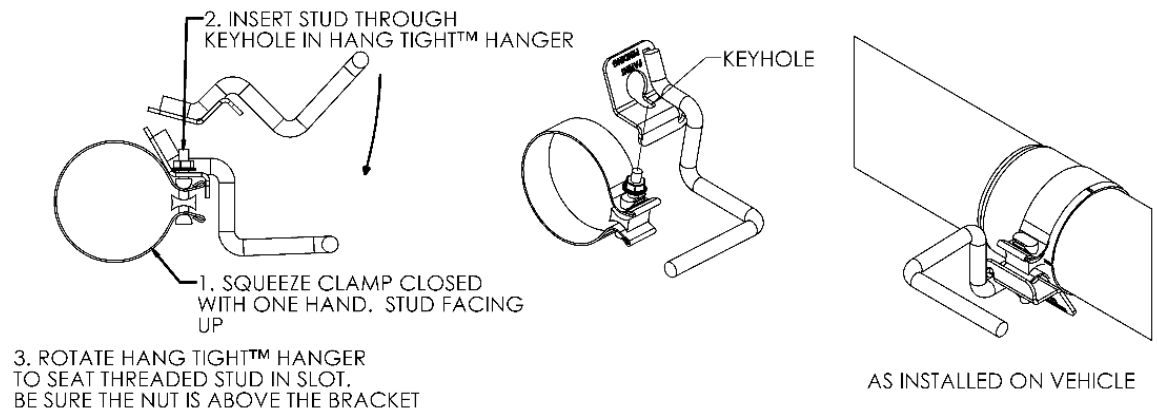

Figure 2
2. Install the **4" to 5" Extension Pipe (46.75")** over the **Down Pipe** securing it with the **4" Band Clamp** and **Front Hang Tight™ Hanger** (See figure 2 for Hang Tight™ instructions, Hang tight hanger not exactly as shown). Install the **32" Extension Pipe** onto the **4" to 5" Extension Pipe** securing it with a **5" Band Clamp**. The combination of these two **Extension Pipes** provides the required length to fit a Quad Cab Long Bed truck, for Quad Cab Short Bed cut the **32" Extension Pipe** to 16" and for Regular Cab models cut down to 12".